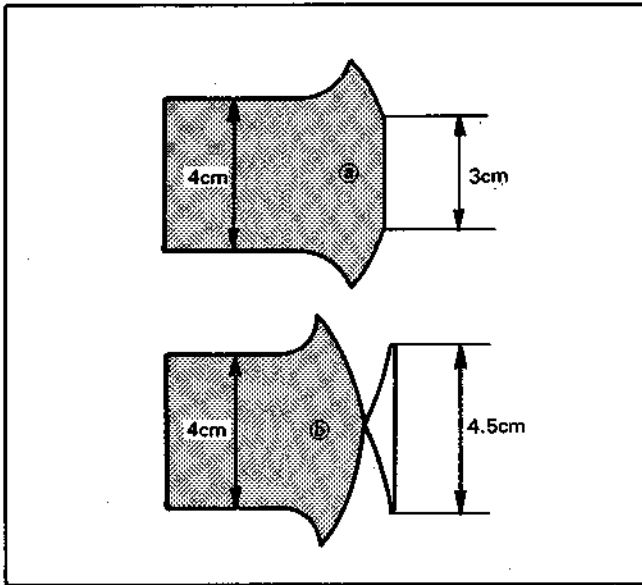
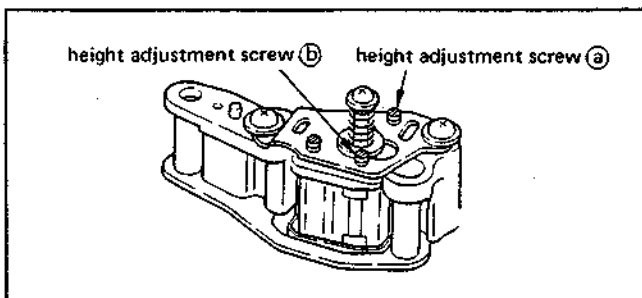

Fig. 4-19 Free Waveform
Fig. 4-20
2) Check that the free waveform is within the range shown in Fig. 4-19 (a) – (b).
3) If the free waveform is not within the range in Fig. 4-19, perform the following adjustment.
Turn height adjustment screw (a) (Fig. 4-20) slowly clockwise to obtain the range in Fig. 4-19.
2): When screw (a) is turned, the tape running height changes, and the tape may touch the upper or lower guide flange. Therefore, when performing this adjustment, observe continuously with a dental mirror and make sure that the tape does not touch the No. 7, 8 guide flanges and ACE head lower flange. If the tape touches No. 7, 8 guides before the range in Fig. 4-19 is obtained, turn No. 7, 8 guides counterclockwise and make space. If it touches the ACE head lower flange, turn No. 7, 8 guides clockwise.